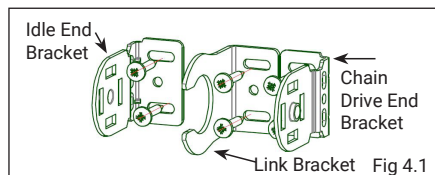

Fig 4.1
1. Mount the chain drive end bracket first, then mount the link bracket. Care should be taken to maintain the required gap of 6mm so that there is enough room to slot the master blind in and hook the chain drive into the brackets. Then install the Idle end bracket (Fig 4.1).